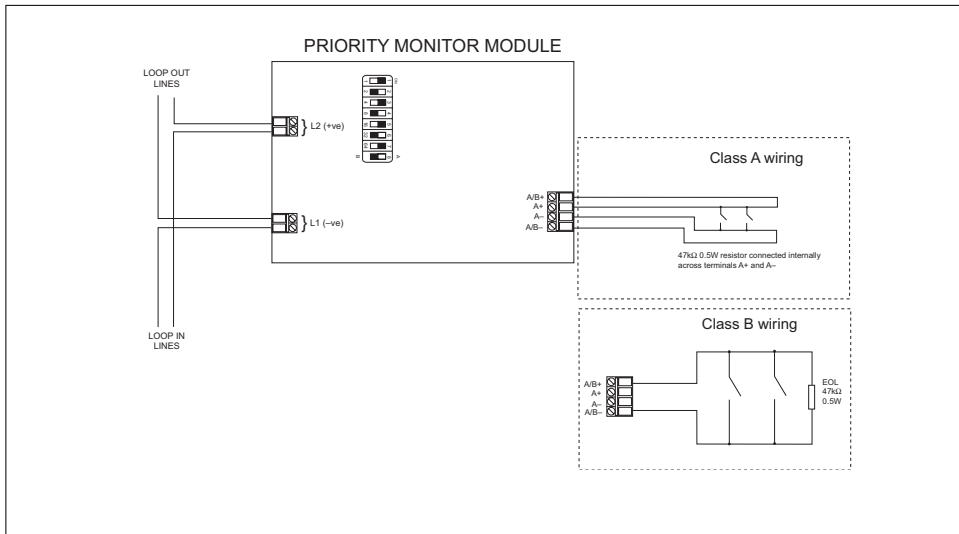

Fig 2. Wiring Diagram for Priority Monitor Module
3. Connect the module for Class A or Class B wiring (Fig 2). Bit 8 of the DIL switch is used to select the class of wiring. All wiring must conform to local codes and regulations.